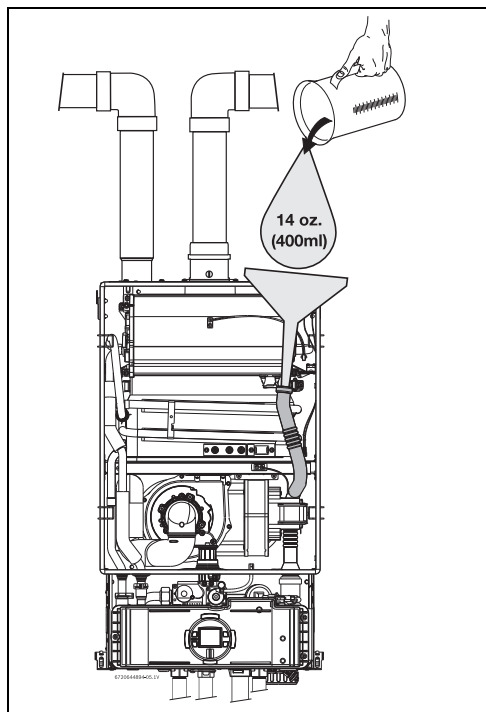

Fig. 40 Filling the condensate trap after installation
- Fill the condensate trap by pouring approx. 14 oz. (400ml) of water into the top of the drain tube. To avoid damage to the appliance use a funnel in this operation, see fig. 40, page 46.